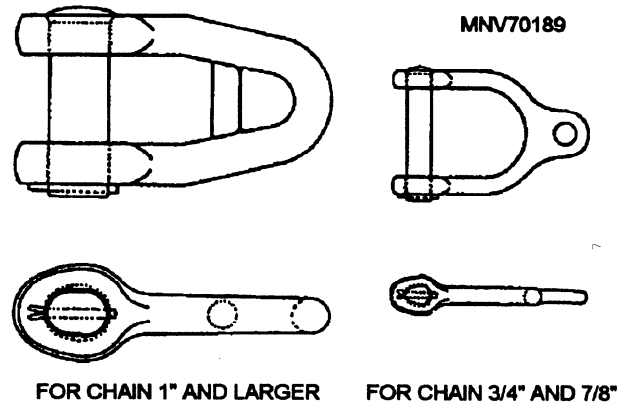

Figure 7-7.—Mooring shackles.
- **MOORING SHACKLES.** Mooring shackles are forged steel shackles (fig. 7-7) that are used to attach anchor chains to mooring buoys. All mooring shackles, regardless of size, have a standard mortise (opening) of 7 inches. Mooring shackles should not be used for any other purposes.